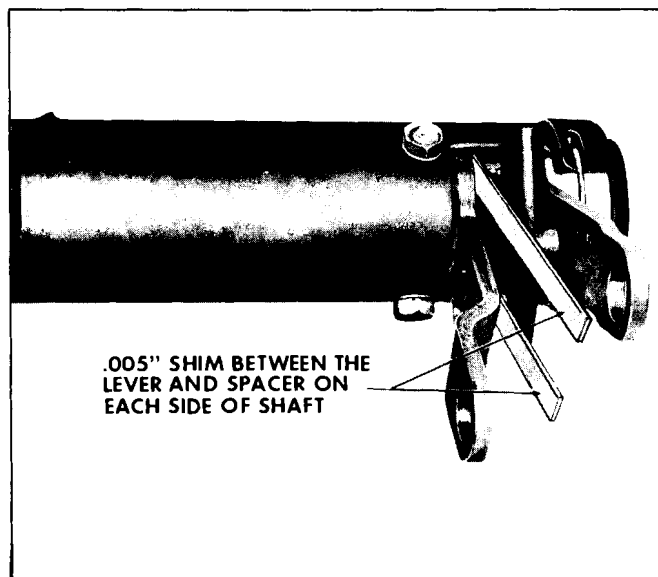

Fig. 9-51 Adjusting Lower Shift Lever Clearance
5. Place a .005" maximum shim on each side of steering shaft between either lever and the spacer (Fig. 9-51). By using two shims, the possibility of cocking the lever is eliminated.